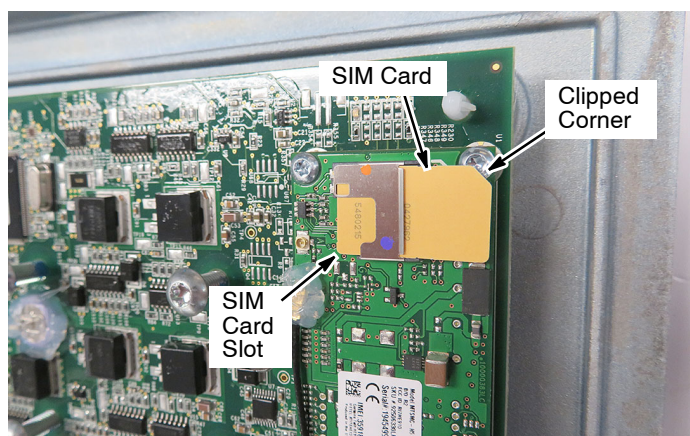

Fig. 11
6. Fully insert the SIM card into the new IRIS circuit board card slot as shown (Figure 11).